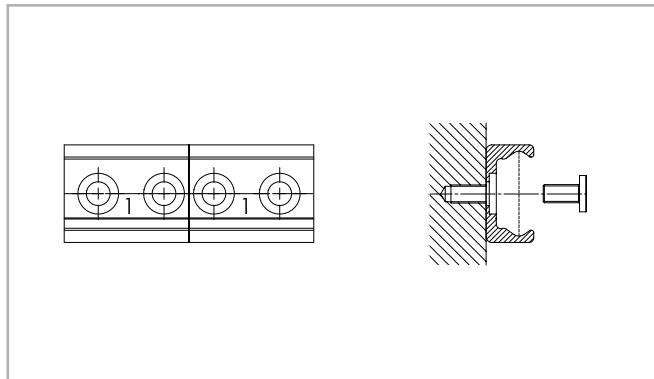

Fig. 173
- (1) Fix the individual rails on the mounting surface by tightening all screws except for each last one on the rail joint.
(2) Install the end fixing screws without tightening them (see fig. 173).